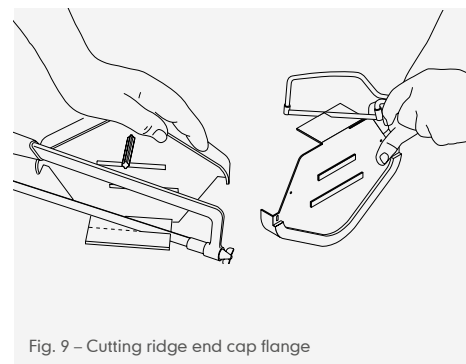

Fig. 9 – Cutting ridge end cap flange
- 16 When fixing with slates, use a standard dry verge end cap to suit ridge profile, but cut lower flange along visible guide line on inside to reduce effective overhang (Fig. 9).
- 17 Cut lower flange across width (Fig. 9) where necessary, to avoid interference with dry verge units. This will always